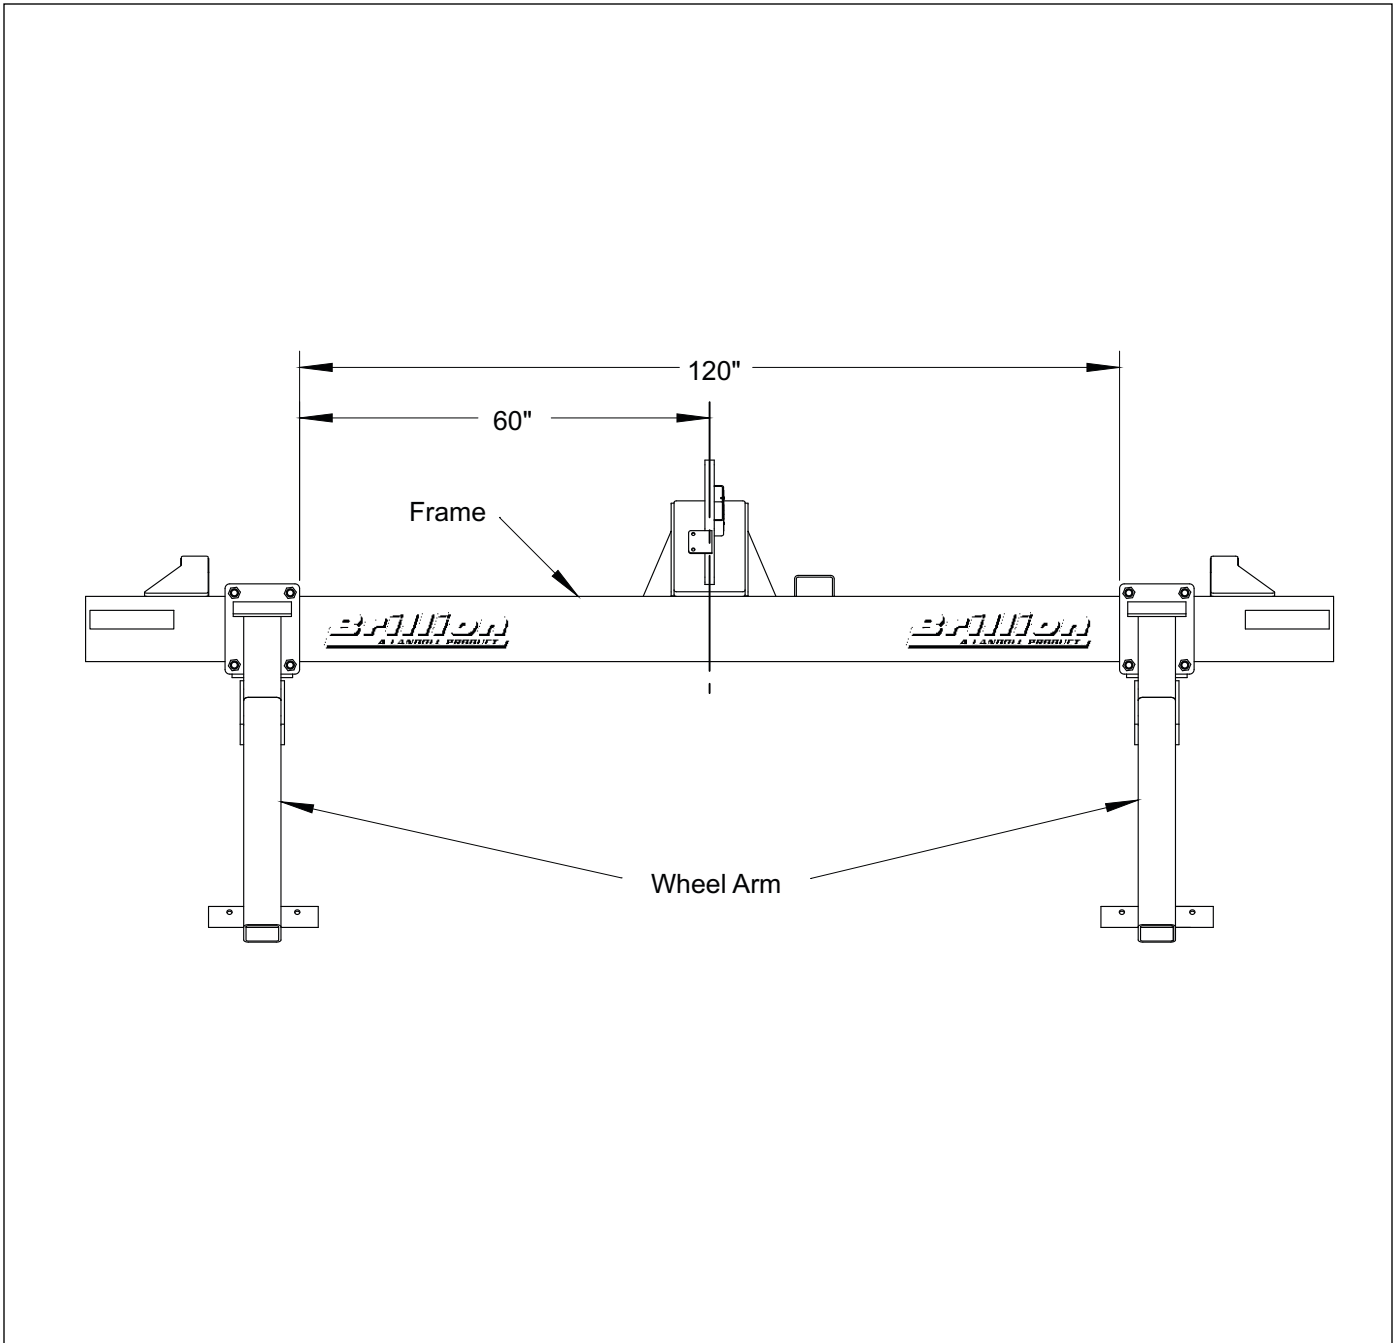
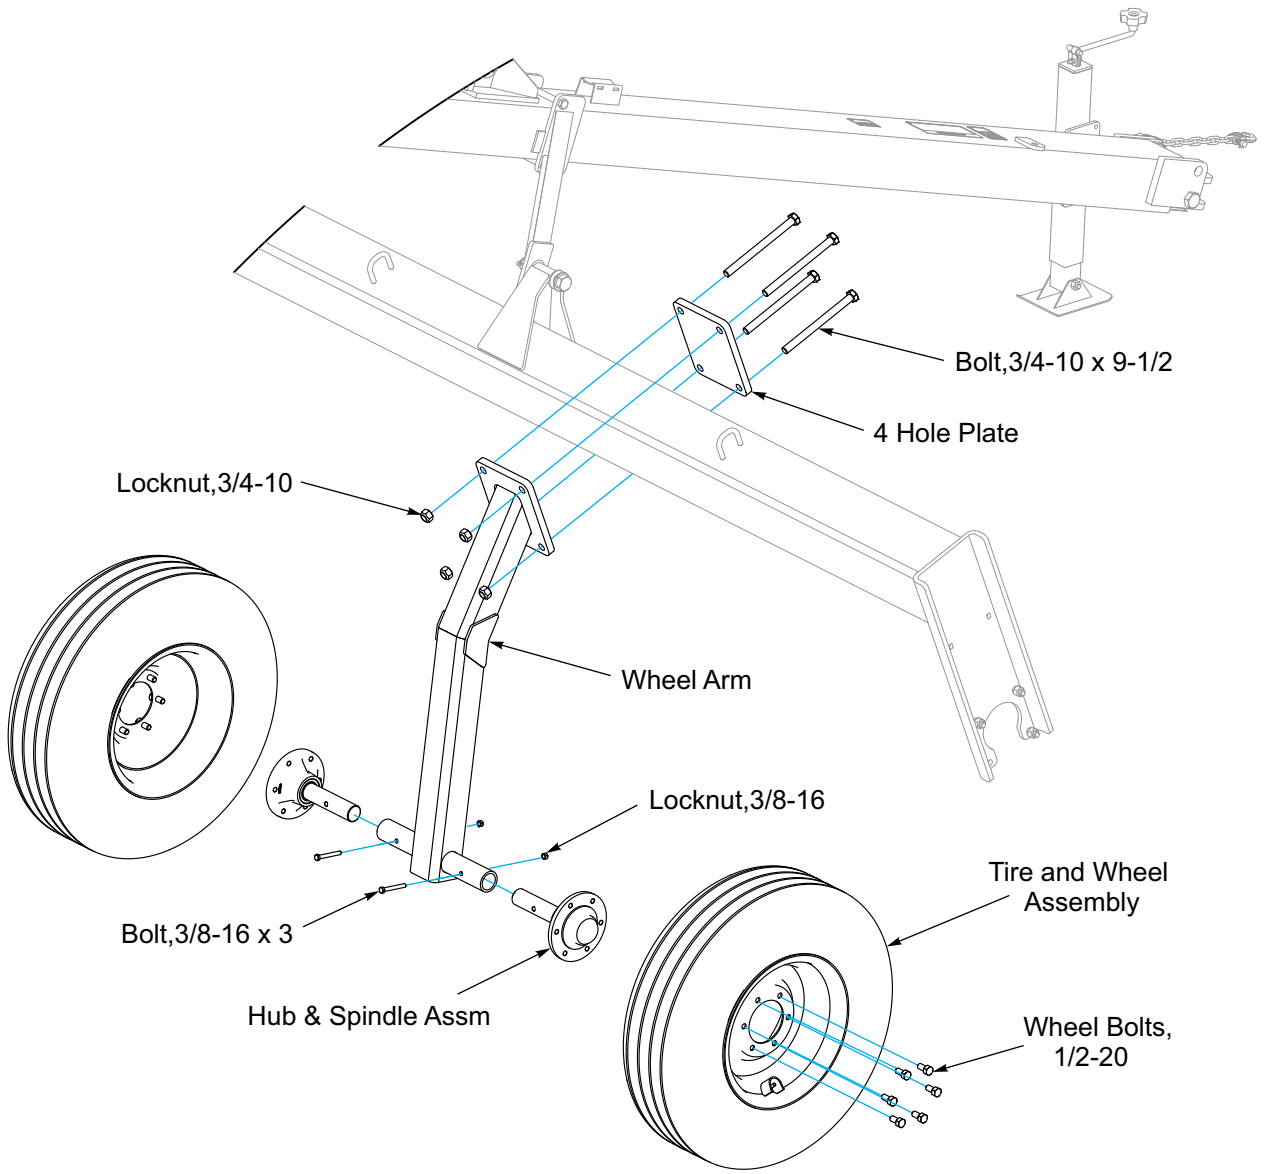

Figure 2-7: Wheel Arm Mounting Dimensions
Figure 2-8: Wheel Arm Assembly
**See Figure 2-7.** Fasten the Wheel Arms to the Frame with 4 Hole Plates and eight 3/4-10 x 9-1/2 Bolts and Locknuts. Insert the Hub and Spindle Assembly into the Wheel Arms. Lock spindle in place with the 3/8-16 x 3 Bolt, secure with Locknut. Attach Tire and Wheel to the Hub and Spindle with the 1/2-20 x 1 Wheel Bolts. **See Figure 2-8.**